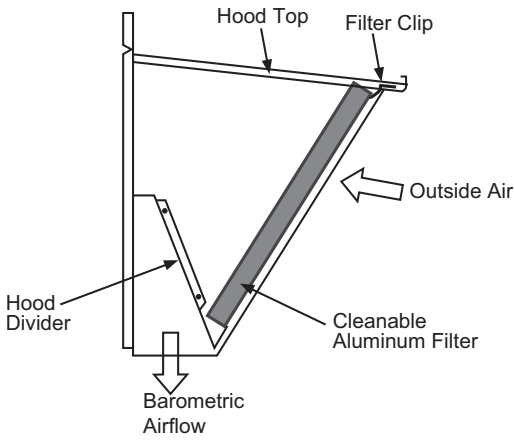

Fig. 21 — Fully Assembled Hood
24. Install aluminum filter(s) in EconoMi\$er X hood. Clips at top of hood will hold filters in place. (See Fig. 21.)